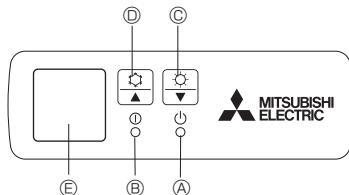

Fig. 5-1
- [Fig. 5-1] A DEFROST/STAND BY lamp (Orange)